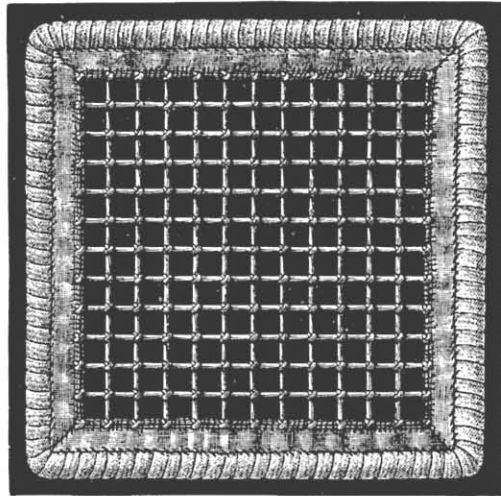

Fig. 12. Mounting net on the metal frame with webbing.
**Mounting a piece of net on the frame with a tape** (fig. 12). — If, on the contrary, the piece of net is smaller than the frame it can be edged all round with a linen tape, eased on in the sewing so as to form little gathers round the net.
In this way the net can be tightly stretched without tearing the outside loops. Figure 12 shews how to sew on the tape, to pleat it at the corners and to fix the net in the frame.